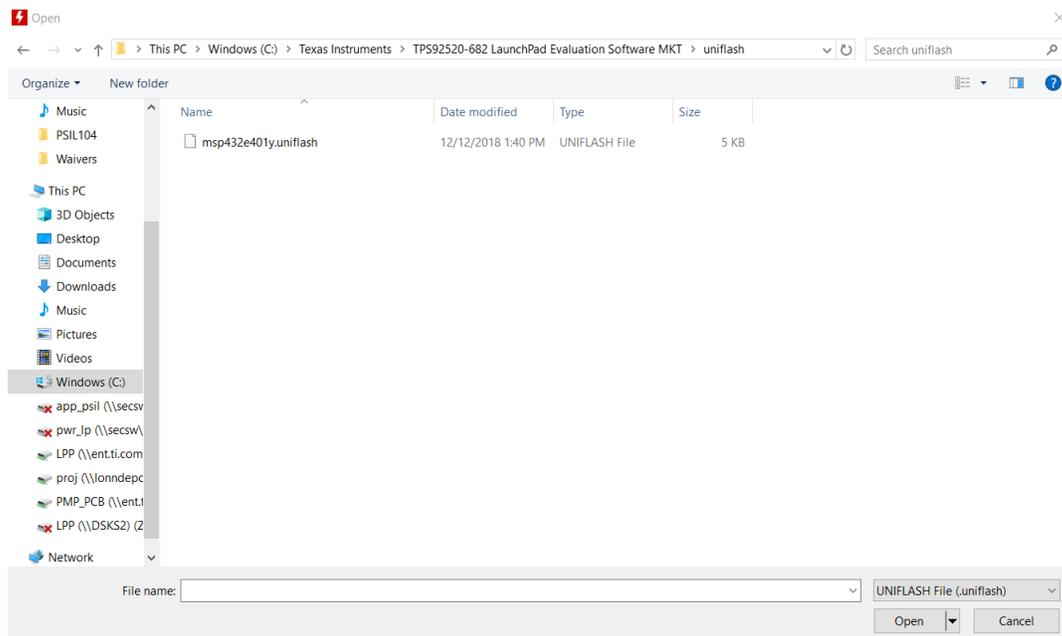

Figure 28. UniFlash Programming, Step 2
7. As shown in Figure 28, navigate to the "*:\Texas Instruments\TPS92520-682 LaunchPad Evaluation Software MKT\uniflash*" location.